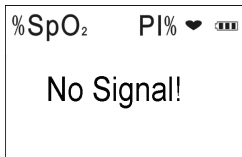

Figure 8 No Signal
- During monitoring, if there is no signal to be detected, “No Signal!” will be prompted on the screen, as shown in Figure 8.